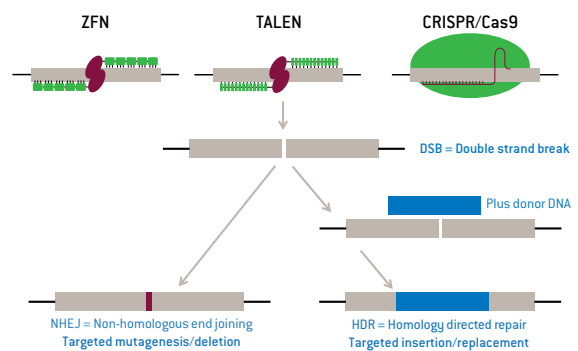

Figure 2. Sequence-specific induction of a double-strand break and subsequent repair processes (simplified scheme).
Zinc finger (ZF) proteins are the most abundant and versatile DNA binding motif in nature⁹. An individual zinc finger domain binds 3 DNA base pairs. Because of their modular structure, they provide an ideal framework for designing an artificial sequence-specific binding molecule. This can be fused to an endonuclease which together mediate sequence-specific cleavage. Since its first proof-of-principle in 1996 by Kim *et al.*¹⁰, ZFN-based genome editing technology has further evolved. The current generation of ZFNs utilizes 5 to 6 ZF domains, which recognize a genomic DNA stretch of 15-18 bp and are fused to Fok I nuclease. Two such zinc finger-nuclease fusion proteins work in combination to bind the sense and antisense strand of the targeted DNA sequence (Figure 2). Once both partners have bound, the Fok1 nuclease can form an active dimer and induce the double-strand break that leads to subsequent cellular repair processes. Since ZFNs target a total of 30-36 bp they provide a highly specific genome editing tool.
In 2009 transcriptional activator-like effectors (TALEs) were discovered to provide a simpler, modular DNA recognition code^{11, 12}. TALEs are naturally occurring proteins from the plant pathogenic bacteria genus *Xanthomonas*, and contain DNA-binding repeats, each recognizing a single base pair. Compared to the triplet-based DNA binding of zinc fingers, this single base recognition mode of TALE–DNA binding repeats enables greater flexibility in design but also holds some cloning challenges. Thus, except for the binding mode, the principle of targeting is very similar. Again sequence-specific, engineered TALEs are typically fused to Fok1 nuclease* to build the TALE-nuclease fusion (TALEN). As with ZFNs, a pair of TALENs must be generated for each target with each monomer binding 13 or more base pairs on the sense or antisense strand of the targeted DNA (Figure 2).
Clustered regulatory interspaced short palindromic repeats (CRISPRs), discovered in 1987 in *E. coli*, were recently shown to provide an even simpler genome editing tool^{13, 14, 15, 16}. The CRISPR pathway is part of the bacterial immune system to defend against invading viruses. This system has been adapted for use in eukaryotic cells. The specificity is driven by a so-called “guide RNA”, which typically binds to a complementary stretch of 18-20 base pairs in the targeted DNA (Figure 2) and has some additional sequence motifs that help in forming a complex with the Cas9 nuclease (CRISPR-associated